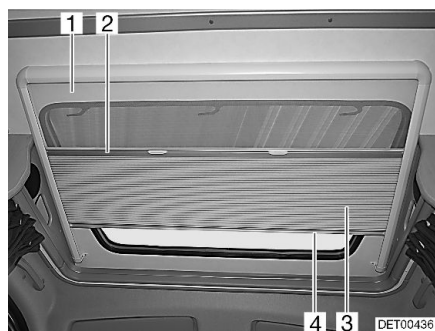

Fig. 30 Sunroof
Roman shade The Roman shade (Fig. 30,3) is permanently connected to the insect screen (Fig. 30,1).
- Hold the Roman shade in the centre of the bottom rod (Fig. 30,4) and carefully draw it downwards.
- Slowly return the Roman shade to its initial position with the bottom rod (Fig. 30,4).
- Hold the insect screen at the centre of the bottom rod (Fig. 30,2) and carefully pull it downward as far as it goes.
- Slowly return the insect screen on the bottom rod of the Roman shade (Fig. 30,4).